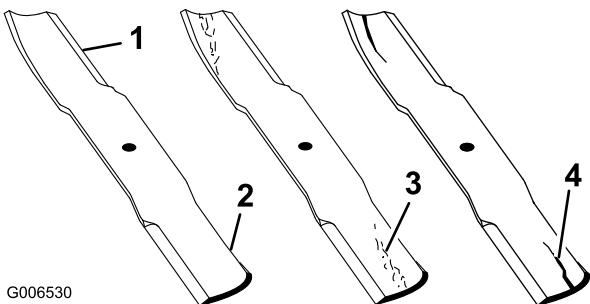

Figure 92
1. Inspect the cutting edges (Figure 92). If the edges are not sharp or have nicks, remove and sharpen the blades. Refer to Sharpening the Blades (page 56).
2. Inspect the blades, especially the curved area (Figure 92). If you notice any damage, wear, or a slot forming in this area (Figure 92), immediately install a new blade.